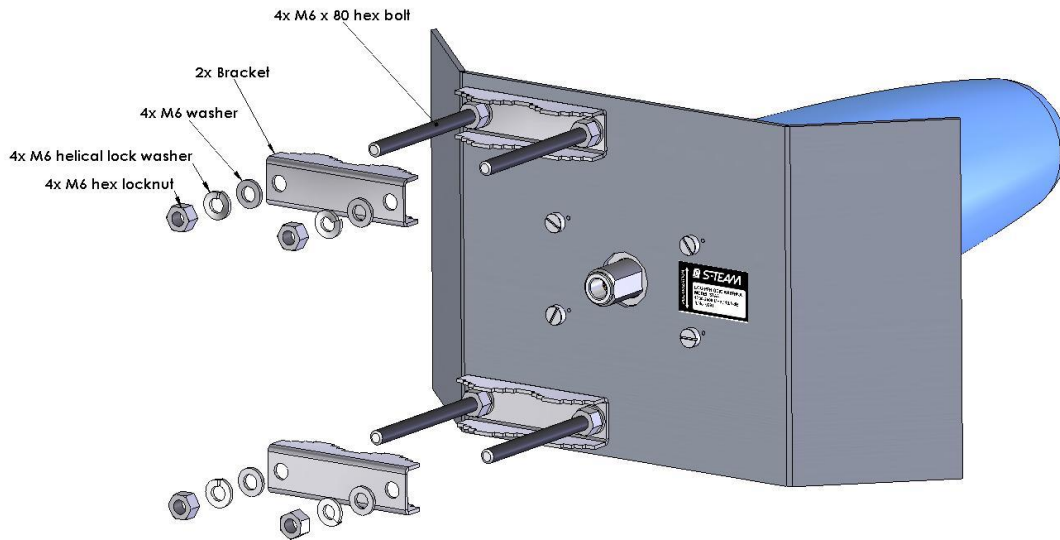

Figure 2
1. Unscrew the four M6 nuts and remove the helical lock washers, washers, and the two outer brackets (Figure 2).